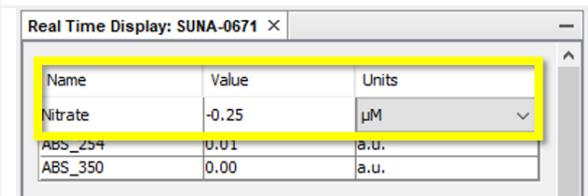

Figure 40. Record Real-Time Nitrate Measurement in Lower Left Corner
**STEP 4** | The nitrate measurement displays in the bottom left-hand corner in the Real Time Display section (Figure 40).